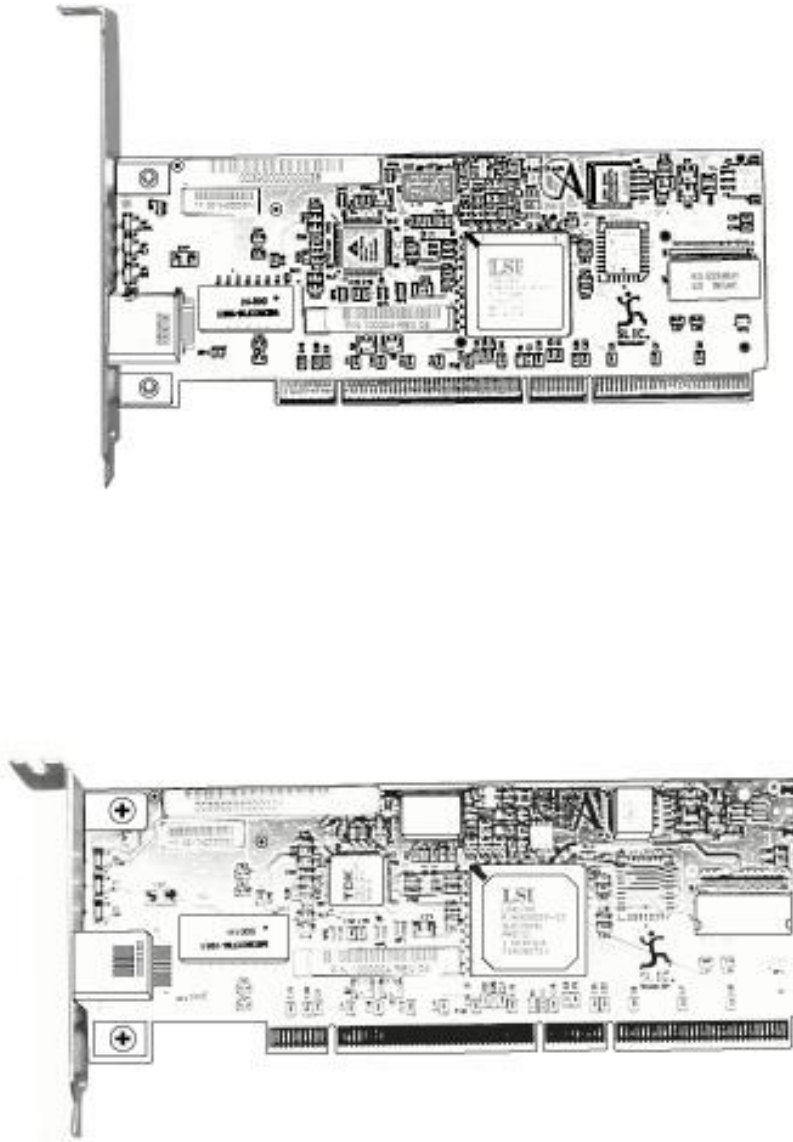

Figure 3 Mounting detail for standard and low profile brackets
2. Install the low profile PCI bracket - P/N 9012, making sure that the mounting tabs are on the bottom side of the board and the screws secured from the component (top) side. See Figure 3 for details.
2. Install the standard PCI bracket - P/N 6588, making sure that the mounting tabs are on the top (component) side of the board and the screws secured from the bottom side. See Figure 3 for details.